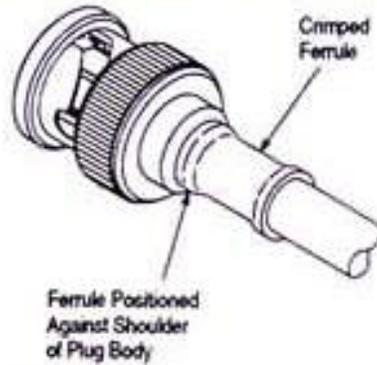

Figure 6
6. Slide ferrule forward over cable braid and support sleeve until it is positioned against the shoulder of the plug body. Crimp the ferrule using the recommended crimping tool (fitted with appropriate die assembly). See Figure 6.